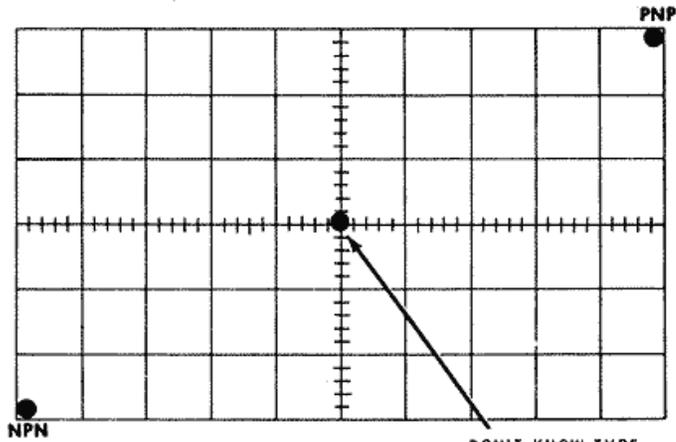

Figure 2-4
() If the transistor is an NPN, place the dot in the lower left-hand corner of the screen. If it is a PNP, place it in the upper right-hand corner of the screen. If you don't know if it is NPN or PNP, place the dot in the middle of the screen as shown in Figure 2-4.
2. Refer again to Figure 2-4, turn the SWEEP VOLTAGE control fully counter-clockwise, and place the dot in the appropriate corner of the screen for NPN or PNP.